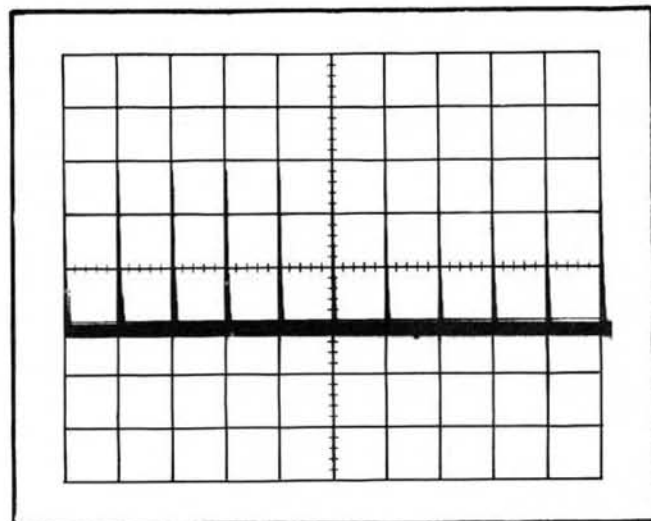

Fig. 5-2. Typical CRT display showing correct sweep calibration.
c. CHECK—CRT display for one 1 ms marker for each division between the second and tenth vertical lines (see Fig. 5-2).